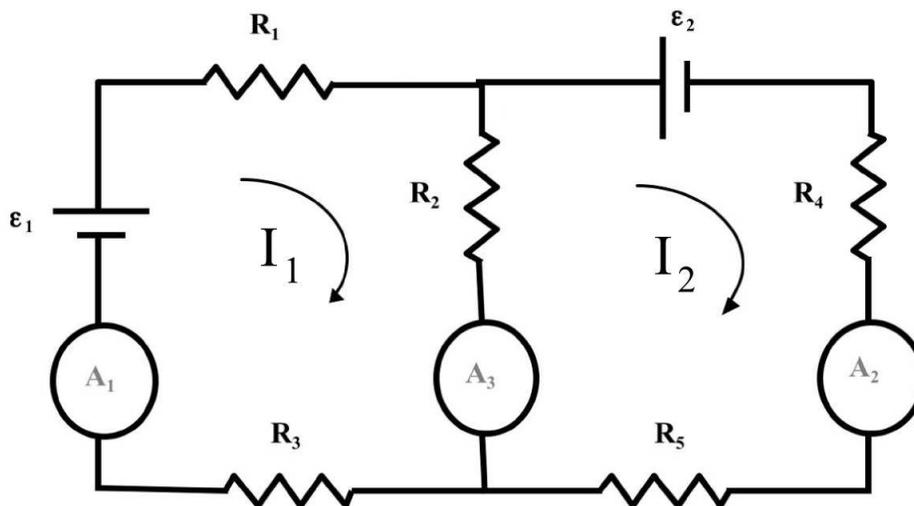

Figure 17.2: Schematic for Kirchhoff's Circuit
To calculate magnitudes of current and voltage in a circuit like Fig. 17.2, you will need to write two equations, making use of KVL and Ohm's Law. This results in two equations with two unknowns. For this experiment, you will measure ε_i and R_i , then solve for the two currents, I_i .
For example, the equation for the left loop in Fig. 17.2 is:
2. Consider the circuit shown in Fig. 17.2 and the *Equipment* list on Page 89. Use Kirchhoff's Voltage Law to solve for the theoretical currents in each of the three branches of the circuit. Let us define two distinct loops of the circuit with currents I_1 and I_2 .
3. Construct the circuit shown in Fig. 17.2. Do not connect the ammeter.